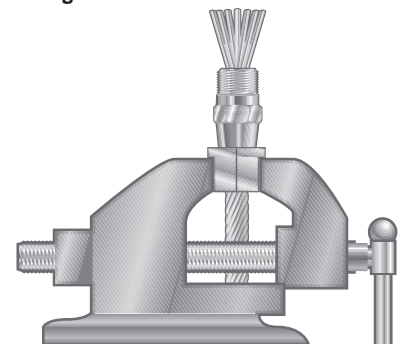

Figure 2
**STEP 3: Unlay the rope.** (Figure 2) Gently force a screwdriver between the strands to unlay the rope. When done correctly, the strands will form a symmetrical basket. Do not straighten the spiral lay of the strands, unlay any wires that make up the strand, or allow the strands to cross each other inside the sleeve.